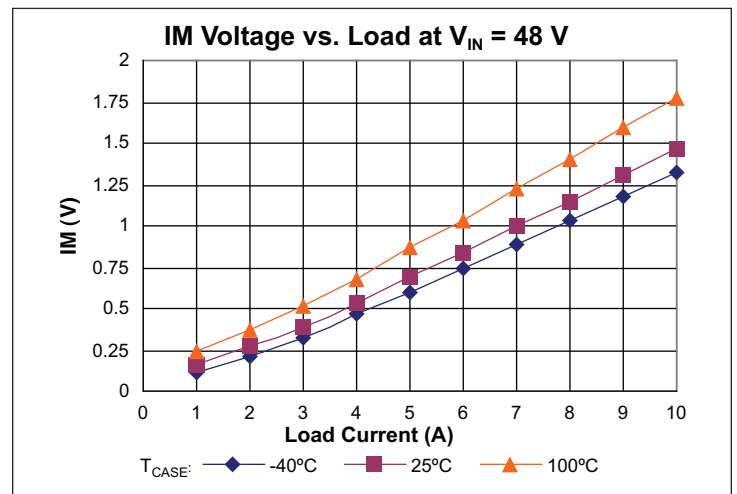

Figure 8 — IM voltage vs. load
Current Monitor (IM) pin provides a voltage proportional to the output current of the VTM module. The nominal voltage will vary between 0.12 V and 1.4 V over the output current range of the module (See Figures 8–10). The accuracy of the IM pin will be within 25% under all line and temperature conditions between 50% and 100% load.